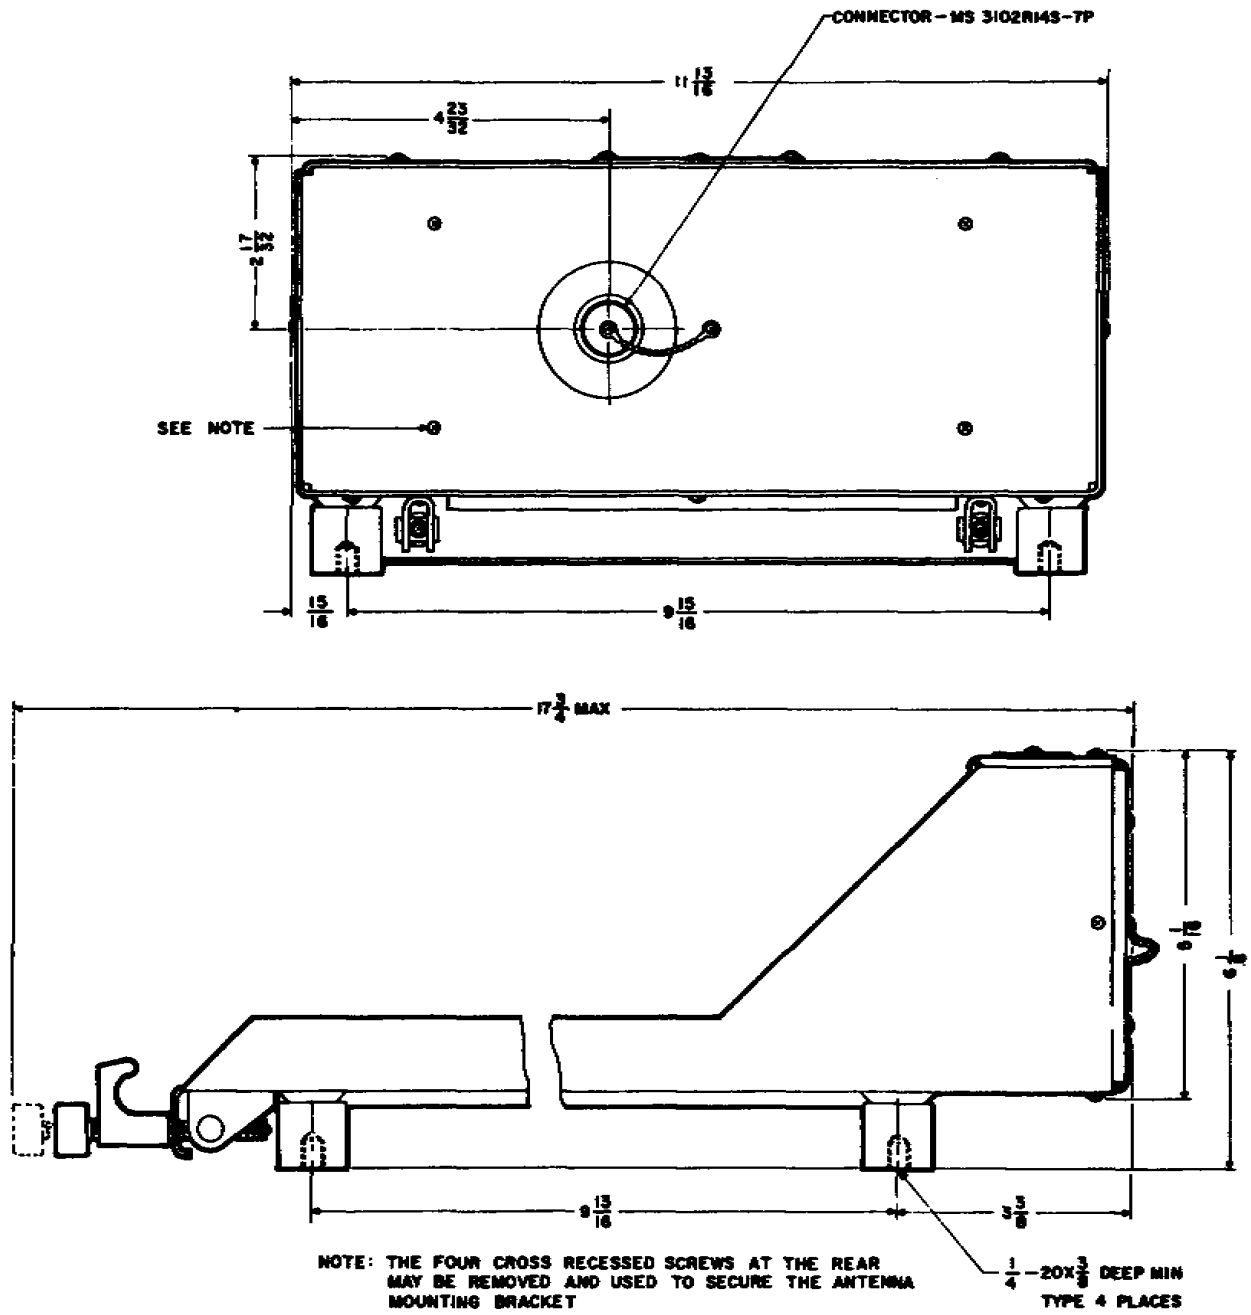

Figure 2-16. Mounting MT-2976/PRC-41, Outline and Mounting Dimensions
(2) ANTENNA CONSIDERATIONS. - When Radio Receiver-Transmitter RT-695/PRC-41 is installed in a vehicular or aircraft installation, it is secured to Mounting MT-2976/PRC-41 and used with Antenna AS-1404/PRC-41. The antenna mounting bracket normally fastens to the rear of Mounting MT-2976/PRC-41 to permit vertical mounting of Antenna AS-1404/PRC-41. Radio Frequency Cable Assembly CG-55G/U connects between the connector on the antenna mounting bracket and antenna connector J28 on the front panel of Radio Receiver-Transmitter RT-695/PRC-41.. Because Radio Frequency Cable Assembly CG-55G/U is a 20-foot length, it may be more convenient to fabricate a shorter length for this installation. Refer to paragraph 2-5b(2) for fabrication instructions. The four screws indicated by figure 2-16 may be removed from the rear of Mounting MT-2976/PRC-41 and used to secure the antenna mounting bracket to the rear of the MT-2976/PRC-41. If it is desirable to mount the antenna mounting bracket on some other flat vertical surface, use the antenna mounting bracket mounting holes as a template, scribe their location on the mounting surface, drill four 5/32-inch holes at the scribed positions, and secure the antenna mounting bracket by use of four 6-32 metal screws or bolts